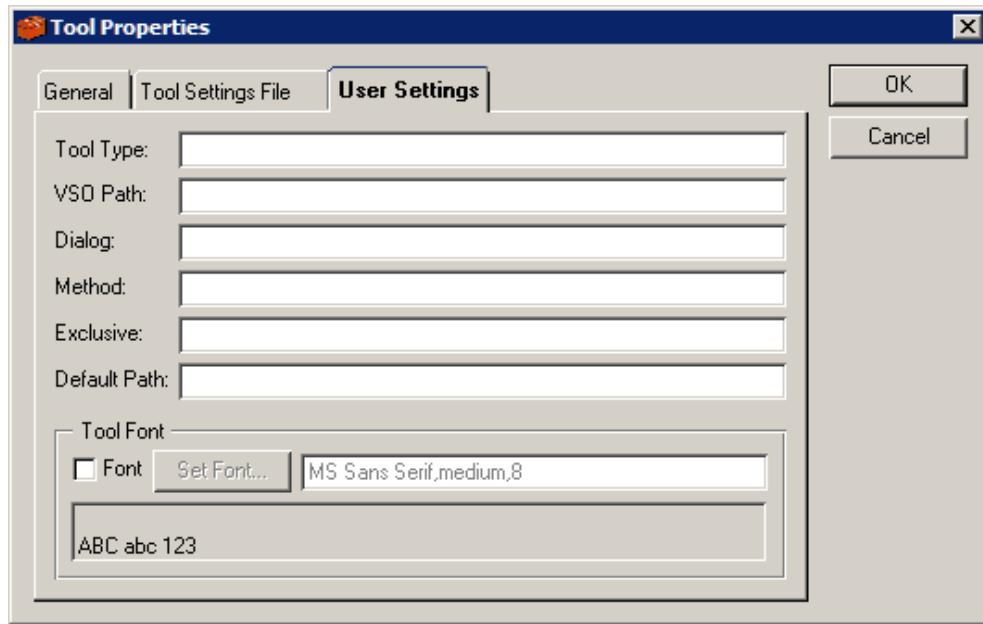

Figure 267: The User Setting Page
- The **User Settings** page has the same text boxes as in the **Insert Tool** dialog box, see Figure 267. In the **User Settings** page of this dialog, it is possible to override the settings in the tool's settings file. For example, it is possible to override the Exclusive state by setting it to its opposite value. Change the settings if needed.
To set font for individual tools, see Figure 267: